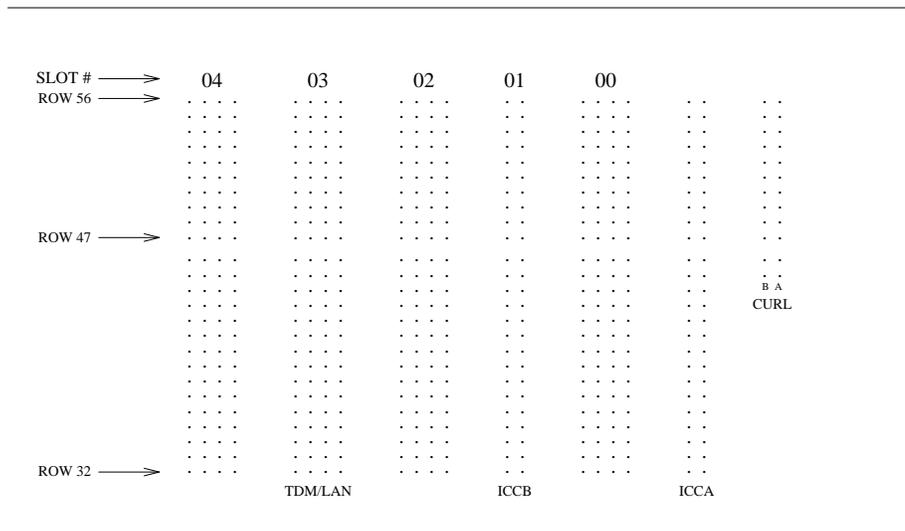

Figure 3-18. ICC Connections for Control Carrier
15. See CAUTION. Install the ICC cables (H600-204 G1) between carriers “A” and “B.” Connect the cables to the ICC pin-field block on both carriers (see Table 3-5 and Figure 3-18). Each cable is installed so that the dark red, blue, or purple stripe (depending upon the supplier) is on the bottom at both ends.